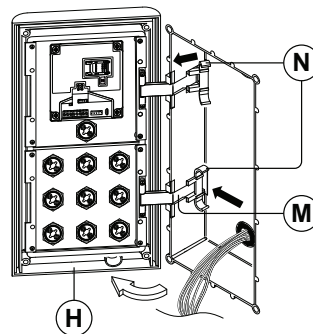

Fig. 65
7. With the front support frame (H) opened out (to allow for easy access to the hinge mounts (M)) take the hinge locks (N) and clip them in place locking into the hinge mounts (M), following the guide arrows as shown in **Fig.65**;